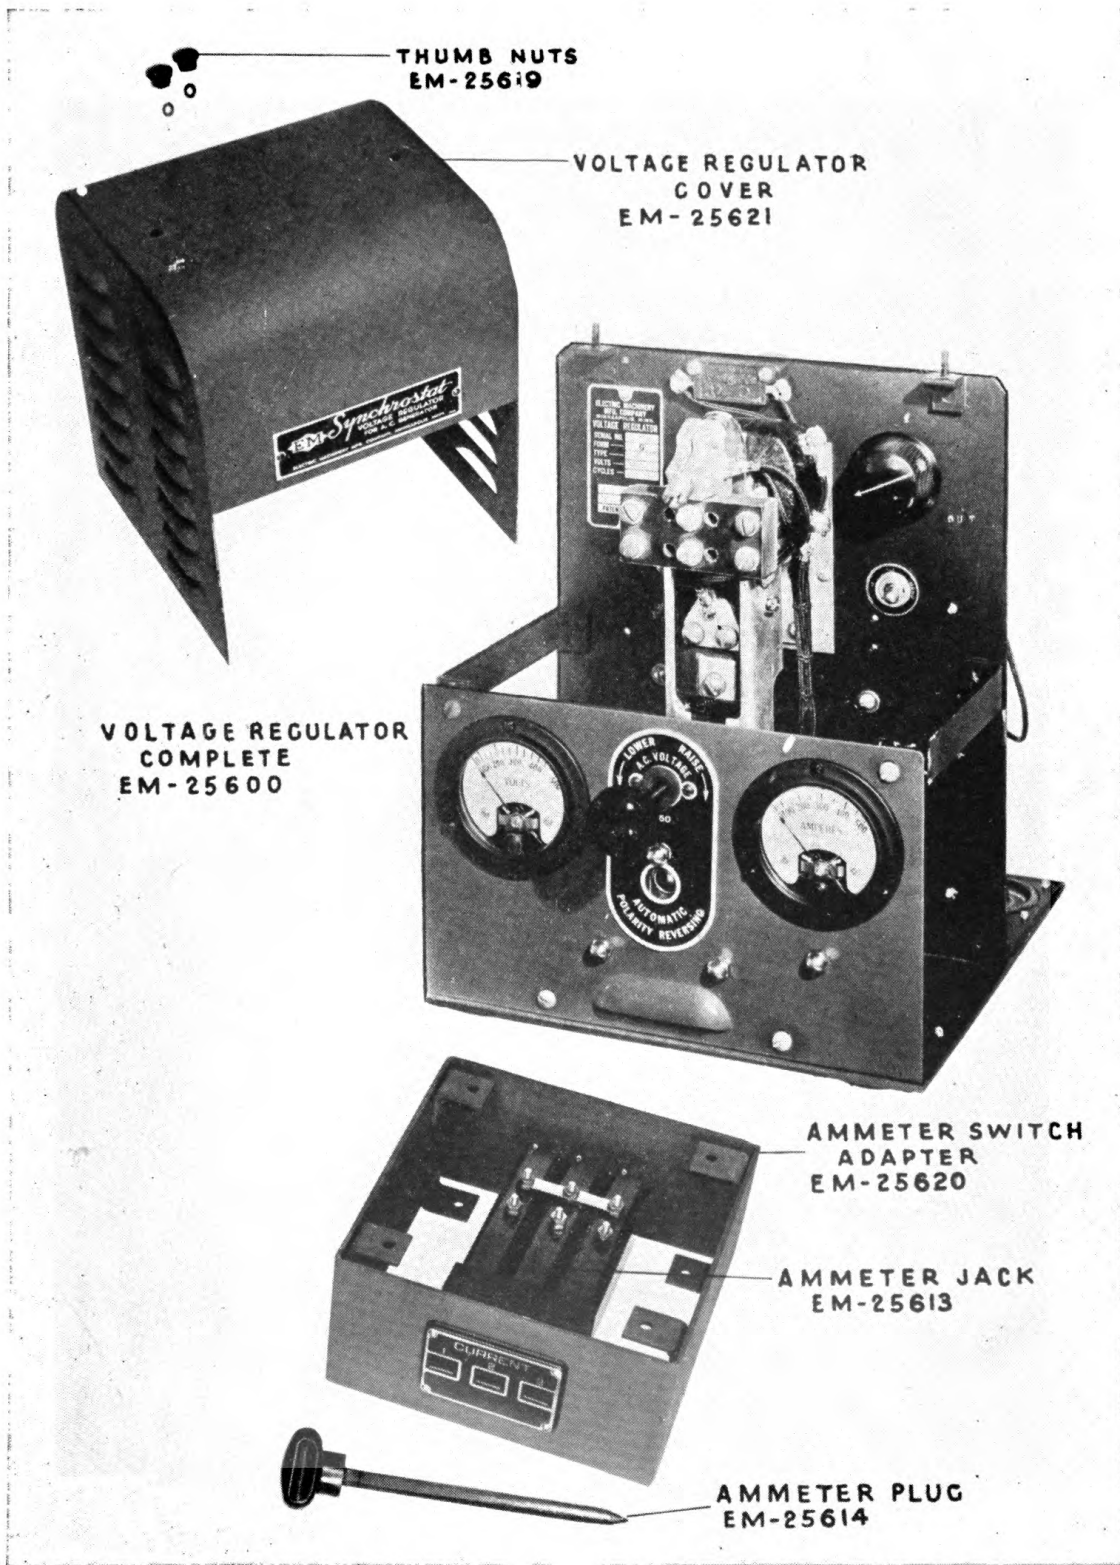

FIG. 20—Voltage Regulator and Ammeter Switch
- Figure 20 Voltage regulator and ammeter switch.